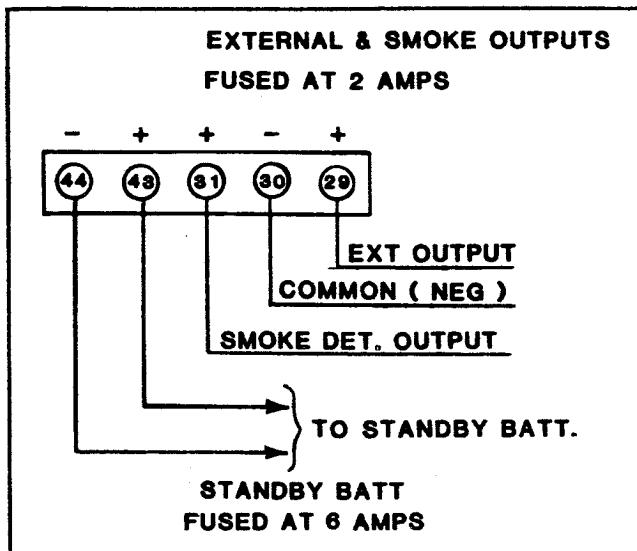

FIGURE 9
9. AUXILIARY POWER OUTPUT (Fig. 9)
10. SMOKE DETECTOR OUTPUT (Fig. 9)